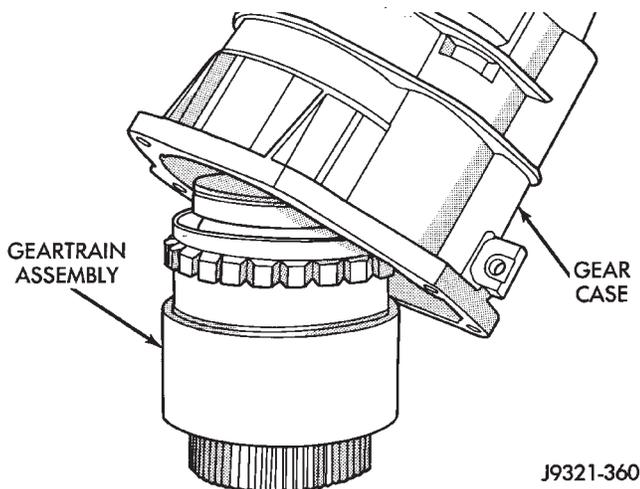

Fig. 220 Removing Gear Case From Geartrain Assembly
(6) Lift gear case up and off geartrain assembly (Fig. 220).